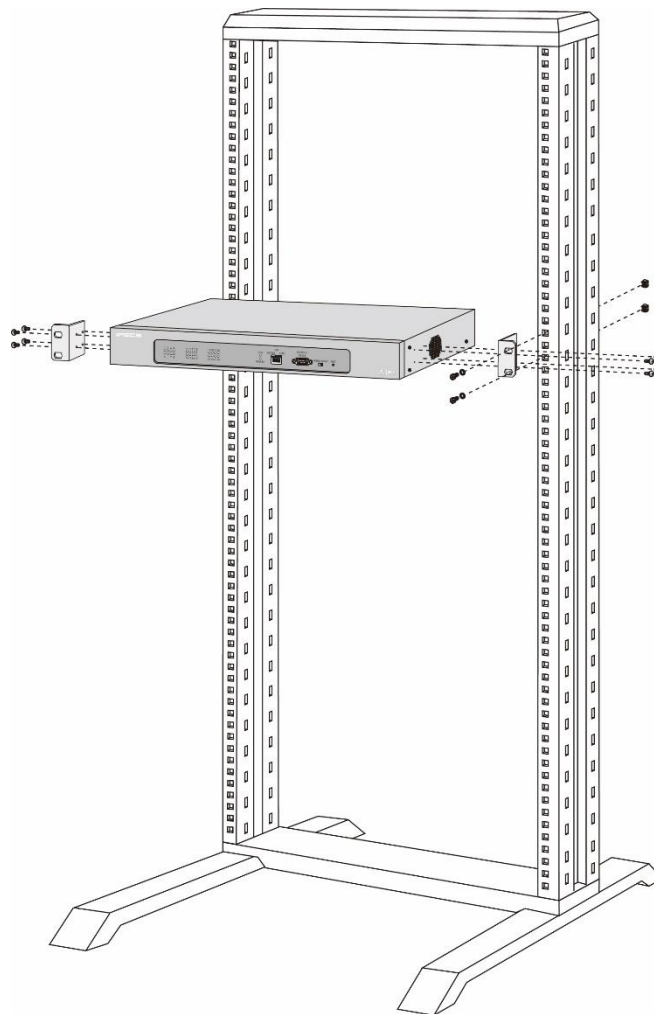

Figure 6.9-1 DTIM24 Rack Mounting Installation
- 1) Mount the left and right mounting brackets to the DTIM24 module using the eight (8) machine screws provided as shown in Figure 6.9-1.
- 2) Mount the Module with the four (4) machine screws, nuts and washers as shown in Figure 6.9-1.